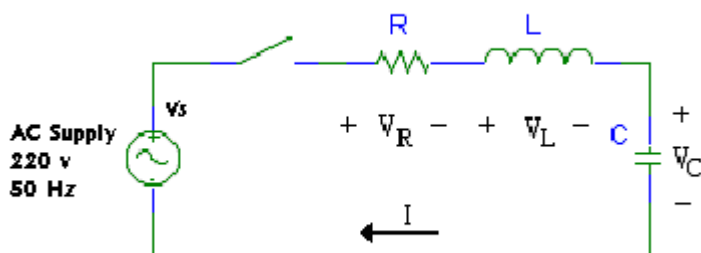

Figure 1 :
1. Construct the circuit as shown in Figure 1.